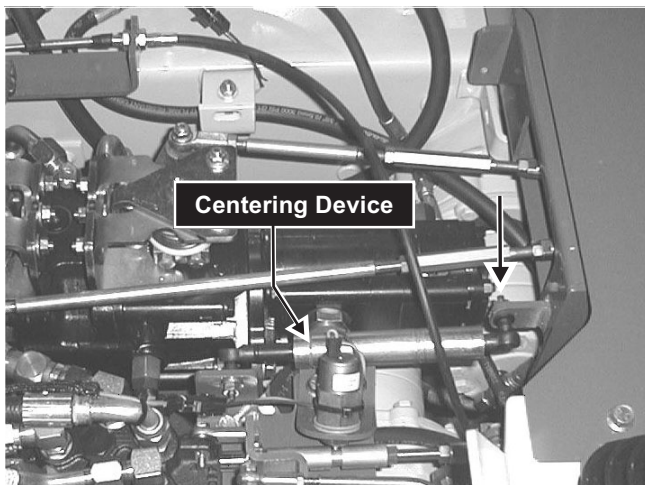

Fig. 6-21 Location to disconnect centering device on dual control weldment.
5. Remove locknut and washer securing centering device to welded tab on dual control weldment. **Fig. 6-21**
6. Remove shoulder screw and two washers securing shock absorber to welded tab on dual control weldment. **Fig. 6-21**